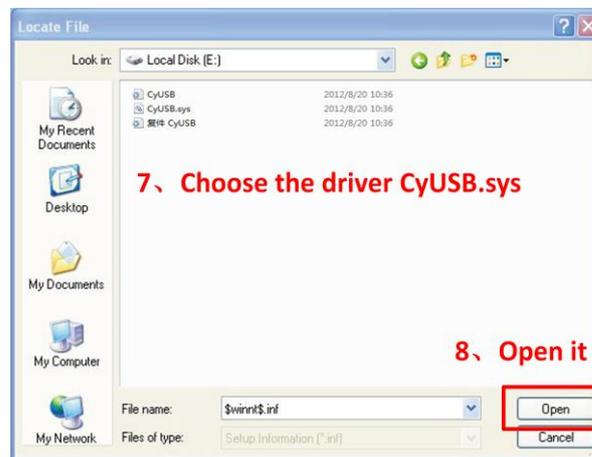

Figure 2.5 Driver Installation File Selection
7. As shown in Figure 2.5, select the CyUSB.inf file in the drive storage directory;
8. As shown in Figure 2.5, double-click the file or click the left mouse button to select the "open" button;